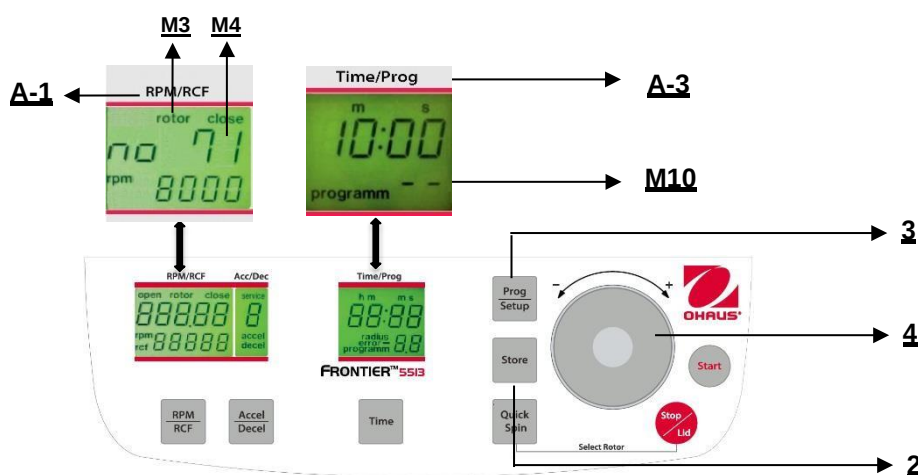

Figure. 22
To recall stored programs, press the key **"Prog/Setup"** (3) (refer to figure 22) while the lid is already closed. Inside the display **"Time/Prog"** (A-4), **"programm -"** (M10) appears. The desired program number can be pre-selected with the adjusting dial (4).
To leave the program mode just press the key **"Prog/Setup"** (3) (refer to figure 22). Then inside the display **"Time/Prog"** (A-3) the word **"programm"** (M10) appears.